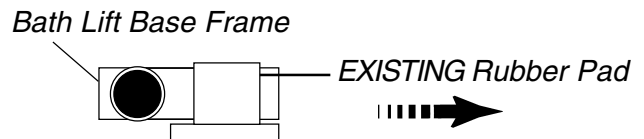

FIGURE 13 - REMOVING THE EXISTING RUBBER PAD
- Twisting EXISTING Rubber Pad from side, pull the suction cup off of the bath lift base frame (FIGURE 13).